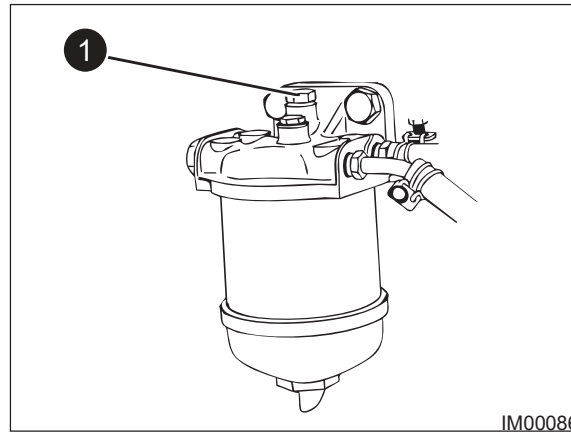

Fig: 11.24 - Vent Screw
5. Loosen vent screw (Item 1, Fig: 11.24) on the fuel filter.